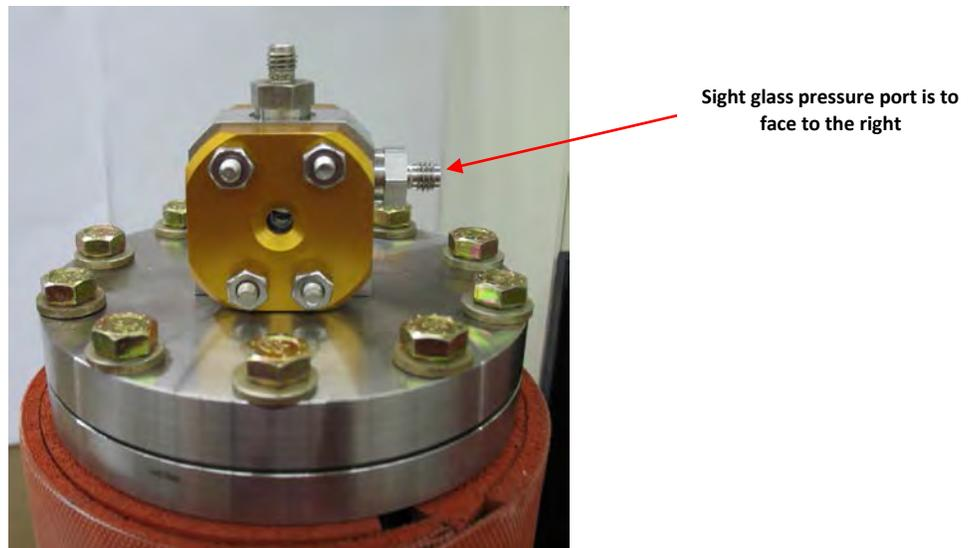

Figure H6 – Reservoir #2 top orientation
6. Install the reservoir #2 (catch reservoir) top so that the sight glass side connector for pressure is facing to the right (figure H6).